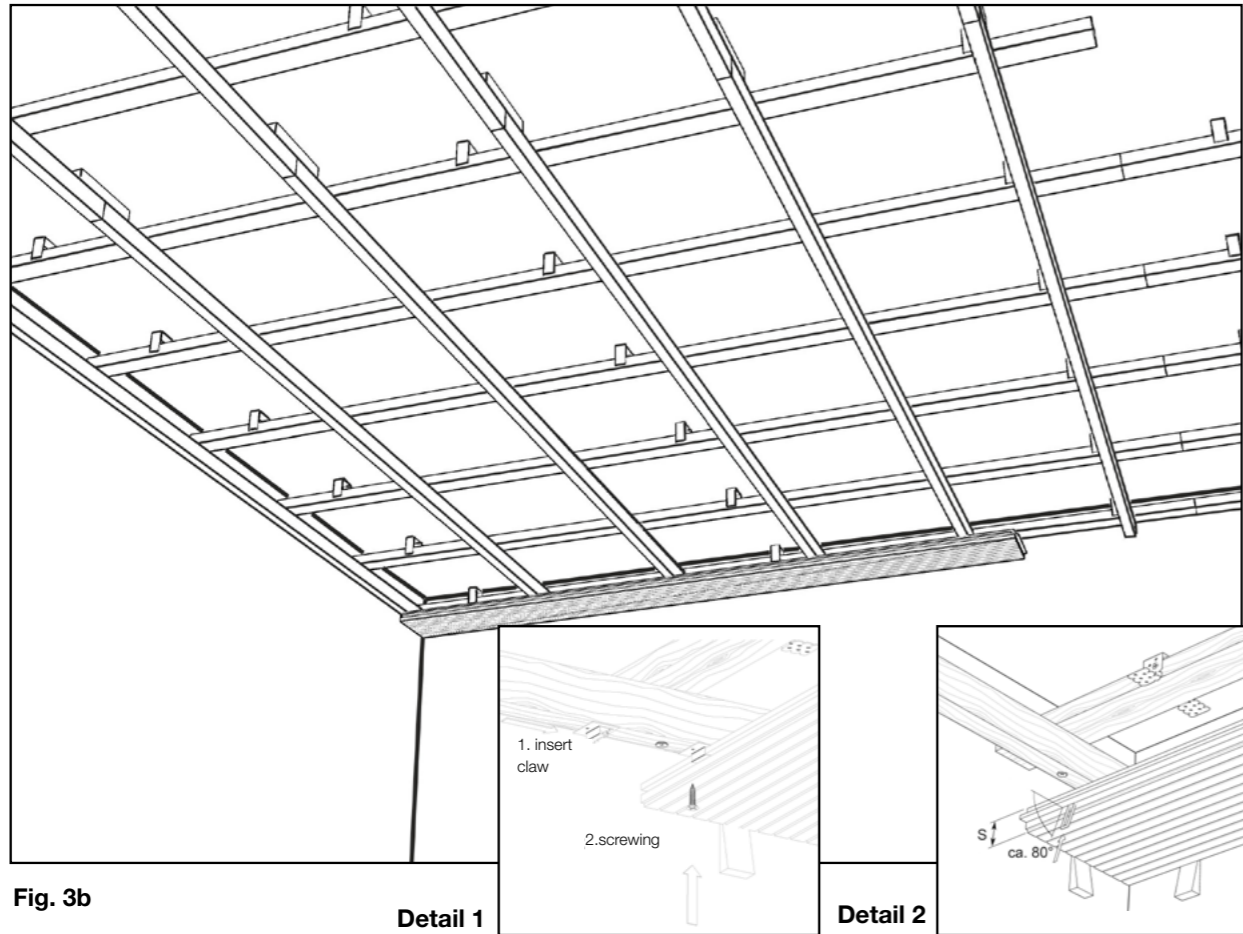

Fig. 3b
Acoustic Dot and Acoustic Linear are installed using 6 mm profile claws (Item No.: 101491) directly on the wooden battens. The profile claws are fastened using approved fastening material 2). **Fig. 3b Detail 1** shows installation with the profile claw. Acoustic Premium is installed on the wooden slats using system claws (Item. No.: 101030) and approved fastening material, or installed directly.
**Fig. 3b Detail 2** shows the direct fastening. In this type of installation the acoustic elements are fastened with commercially available brad nails or staples 3) through the MDF tongue. Particularly important is the correct setting of the insertion depth or the air pressure so as not to drive the staples or brads right through the tongue.